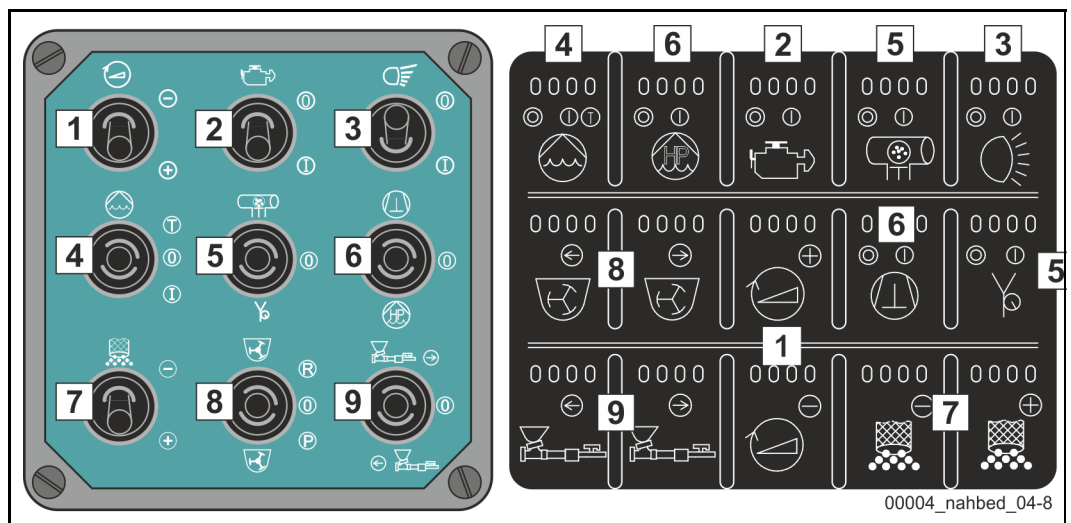

Fig. 421 Local control keypad
Pressing down the switch (6)  on the local control unit (**Fig. 421**) switches a directional valve, which directs the oil flow to the hydraulic motor of the high-pressure pump, and the pump starts pumping immediately.